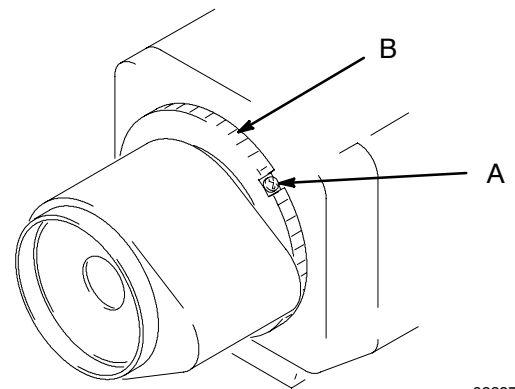

Fig. 7
1. Loosen two set screws (A) that are on both sides of lens. See Fig. 7.
3. Turn focusing ring (B) to focus camera so that object from step 2 is in clear focus on video monitor screen.